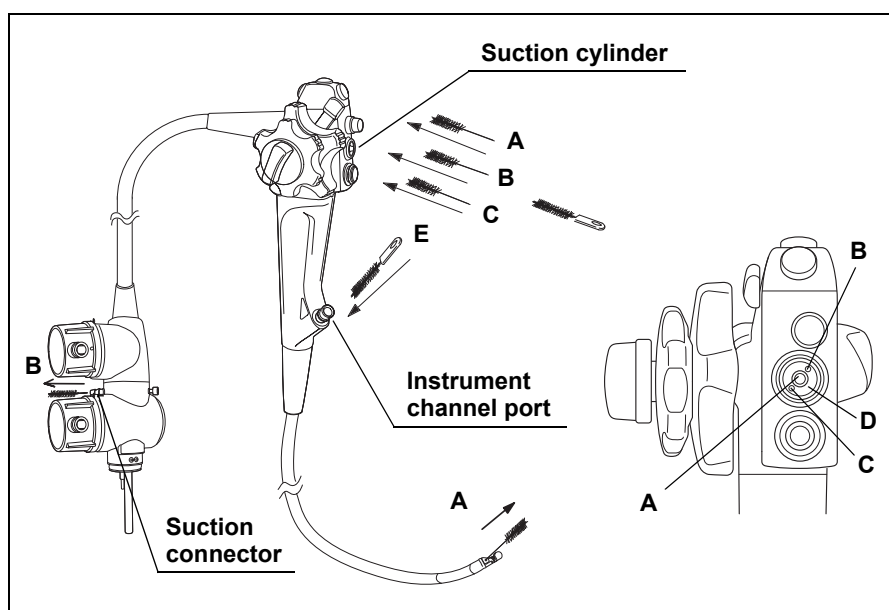

Figure 7.32
While the endoscope is submerged, brush the instrument and the suction channel, suction cylinder, instrument channel port, balloon channel and irrigation port according to the following procedures (see Figure 7.32).
3. Insert the channel cleaning brush (BW-20T), the single use channel cleaning brush (BW-201T), or the single use combination cleaning brush (BW-412T) into the center opening of the suction cylinder as illustrated by A in Figure 7.32. Using short strokes, feed the brush through the insertion tube until it emerges from the distal end of the endoscope.
2. Insert the channel cleaning brush (BW-20T), the single use channel cleaning brush (BW-201T), or the single use combination cleaning brush (BW-412T) straight into the opening of the suction cylinder as illustrated by B in Figure 7.32. Using short strokes, feed the brush through the universal cord until it emerges from the suction connector on the endoscope connector.
2. Insert the channel cleaning brush (BW-7L) or the single use single-ended cleaning brush (BW-400L) straight into the opening of the suction cylinder as illustrated by C in Figure 7.32. Using short strokes, feed the brush until it reaches the distal end near the balloon attachment groove.
1. Insert the channel-opening cleaning brush (MH-507), the single use channel-opening cleaning brush (MAJ-1339), or the single use combination cleaning brush (BW-412T) into the suction cylinder as illustrated by D in Figure 7.32 on page 120 until half of the brush section is inserted.
1. Insert the channel-opening cleaning brush (MH-507), the single use channel-opening cleaning brush (MAJ-1339), or the single use combination cleaning brush (BW-412T) into the instrument channel port until the brush handle touches the channel opening as illustrated by E in Figure 7.32 on page 120.